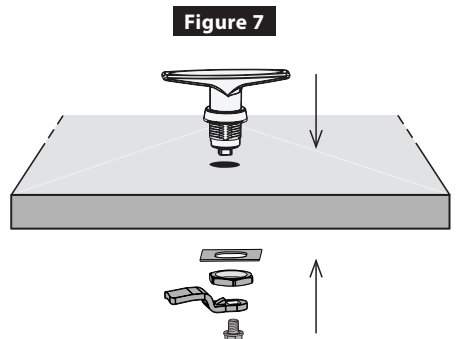

Figure 7
9. **HANDLE INSTALLATION: Figure 7**